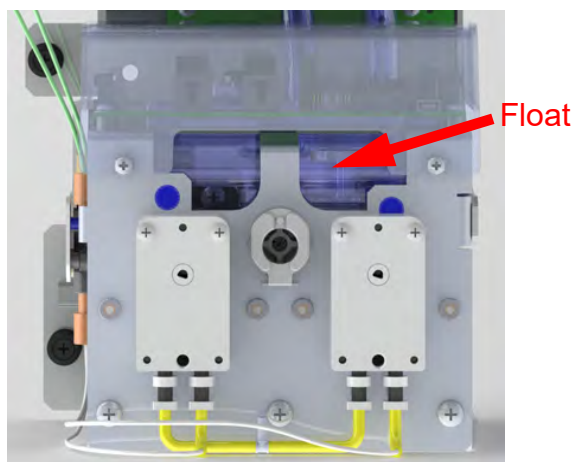

Figure 53: Water Reservoir with Float
NOTE: The float should be just below the top of the reservoir. Do not overfill (Figure 53).
8. Verify that the water line is **just below** the top of the reservoir (Figure 53). Add water as needed. See “To fill the DI water reservoir” on page 202).